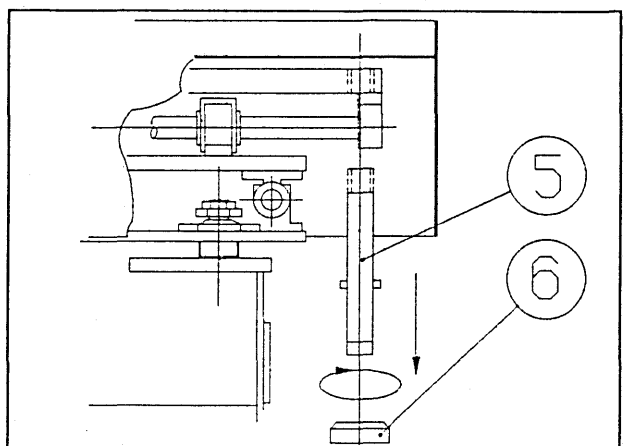

Fig. 2f
5) Unscrew the transit clamp bar from the top carriage plate. (Fig. 2f)